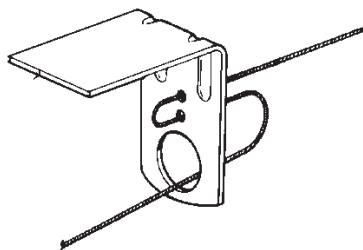
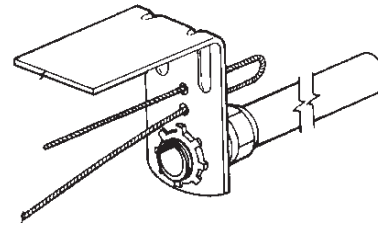
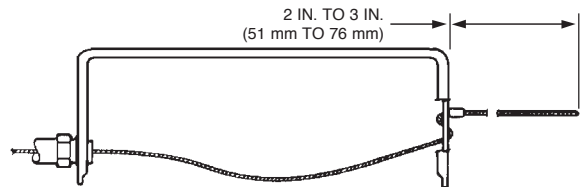

FIGURE 5-25
FIGURE 5-26
FIGURE 5-27
- Feed the wire rope through the terminal detector bracket as shown in Figure 5-25 or as shown in Figure 5-26 if the terminal detector is at least 12 in. (305 mm) away from any pulley elbow or conduit adaptor to avoid interference. See Figure 5-27. Use the National Telephone Supply Company Nicopress Sleeve Tool (Stock No. 51-C-887) or equal to properly crimp the stop sleeve.